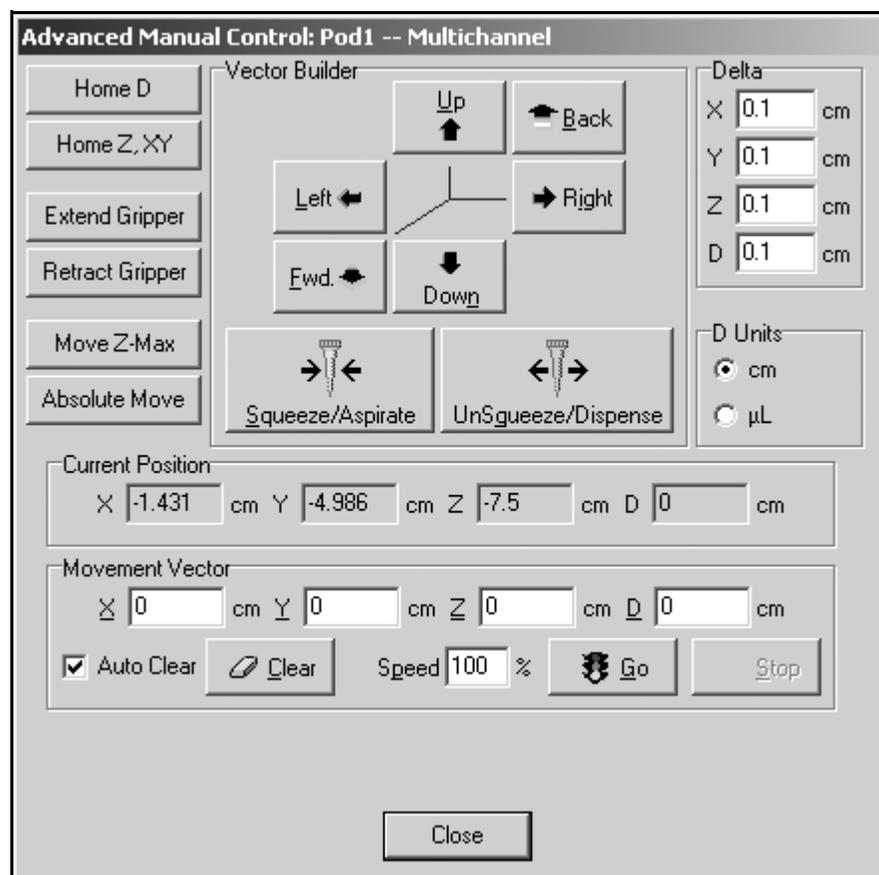

Figure 3-18. Advanced Manual Control for a Multichannel
2. Select **Advanced Controls** and highlight Pod1 or Pod2. Advanced Manual Control: for the selected Pod appears (Figure 3-18).